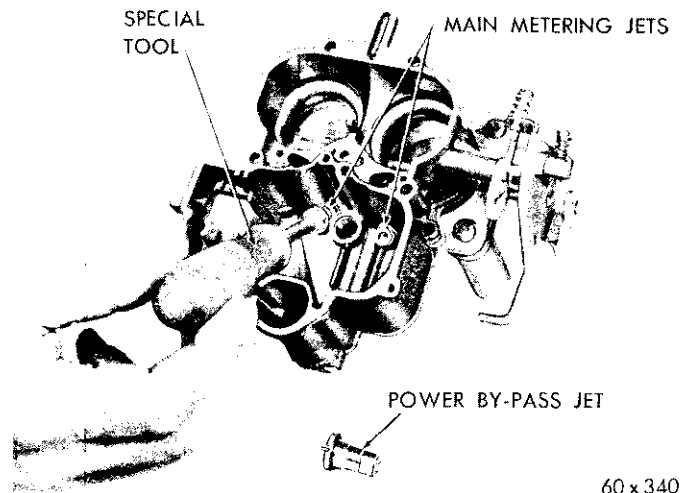

Fig. 20—Removing or Installing the Main Metering Jet
(6) Using Tool T109-173, remove the two main metering jets, as shown in Figure 20.
(7) Remove the two air horn screws used to hold the main and throttle bodies together. Separate the throttle and main bodies.
(2) Install the main metering jets in the main body. Tighten securely, using Tool T109-173 (Fig. 20).